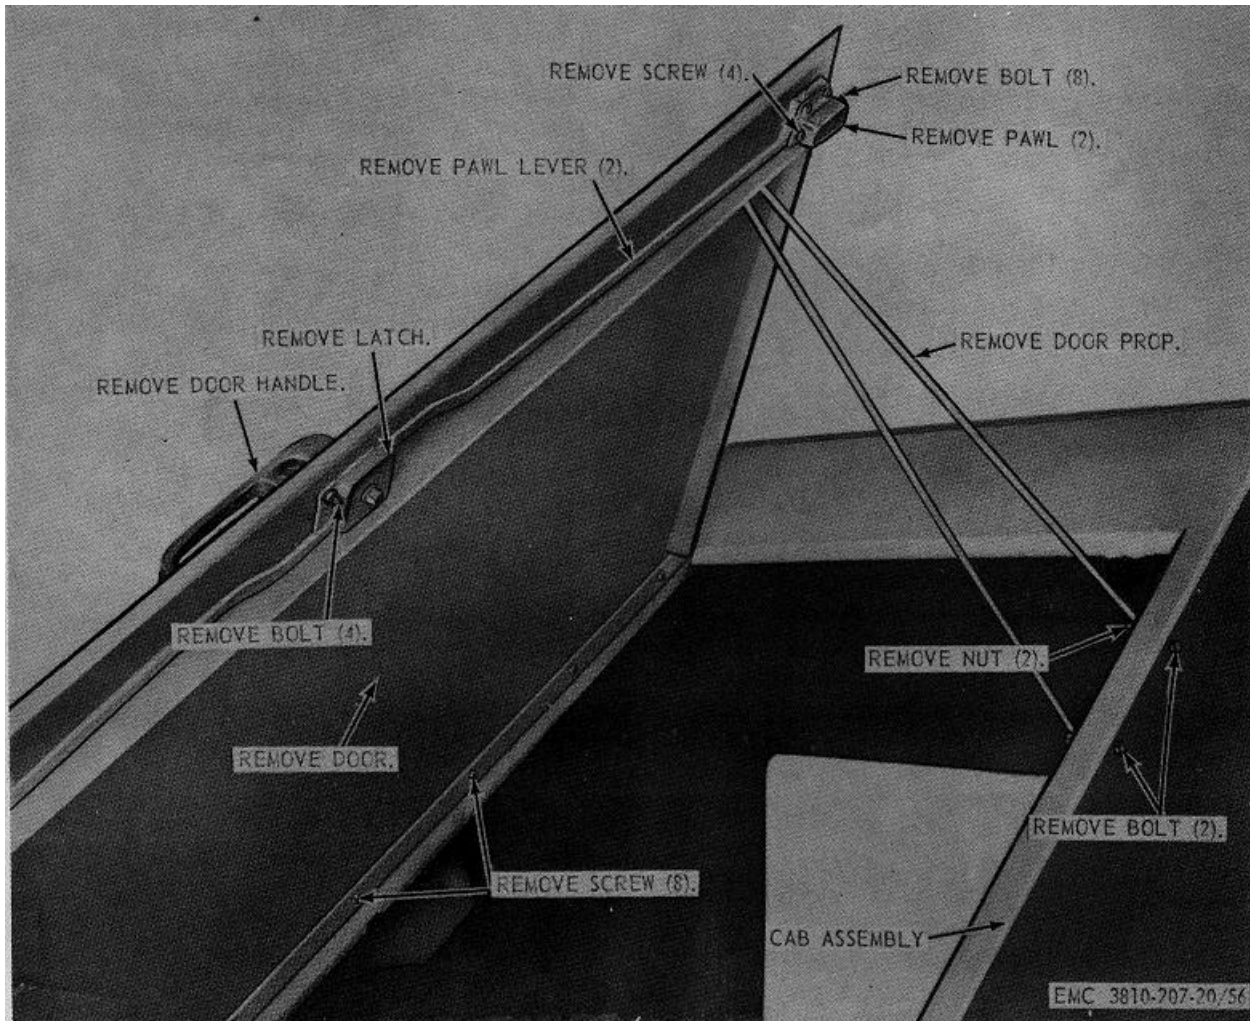

Figure 56. Top-front cab door, removal, disassembly, reassembly, and installation.
a. *Removal and Disassembly.* Remove and disassemble the top-front cab door as instructed on figure 56.
- (1) Clean all parts with an approved cleaning solvent.
- (2) Inspect all parts for bends, cracks; breaks, and other damage. Repair or replace as necessary.
c. *Reassembly and Installation.* Reassemble and install top-front cab door as illustrated on figure 56.